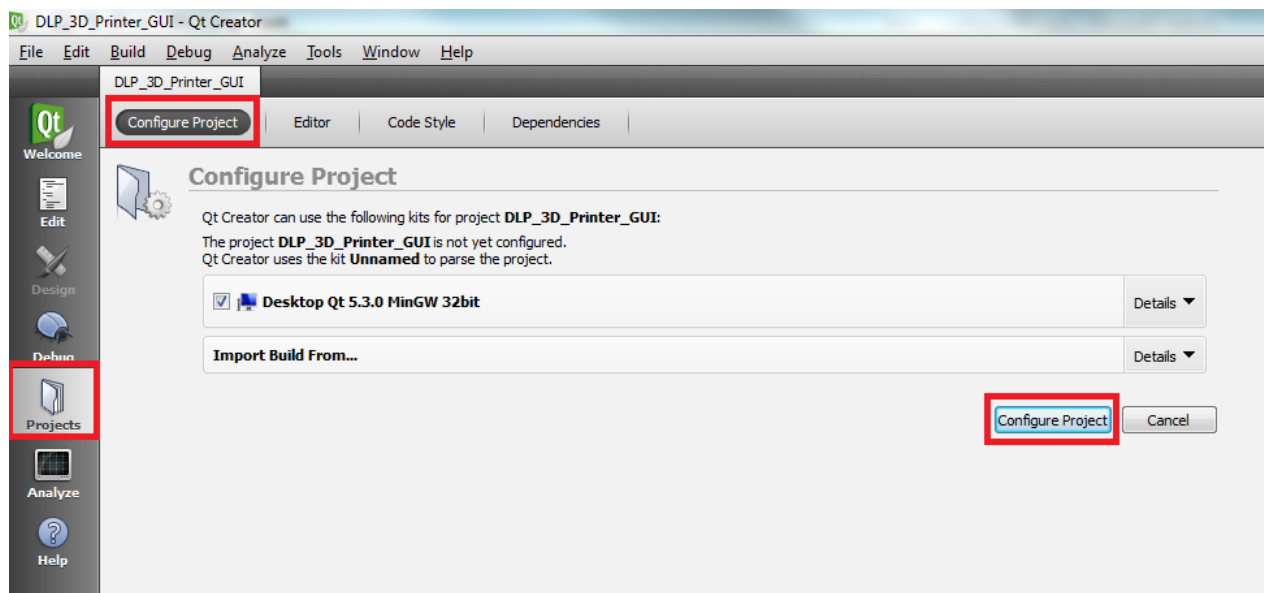

Figure 4-35. Configuring the QT .pro for Building
3. Click the **Projects** tab on the left of the Qt IDE and click **Configure Project** tab on the top bar, as shown in Figure 4-35. Then click the **Configure Project** button also shown in Figure 4-35.